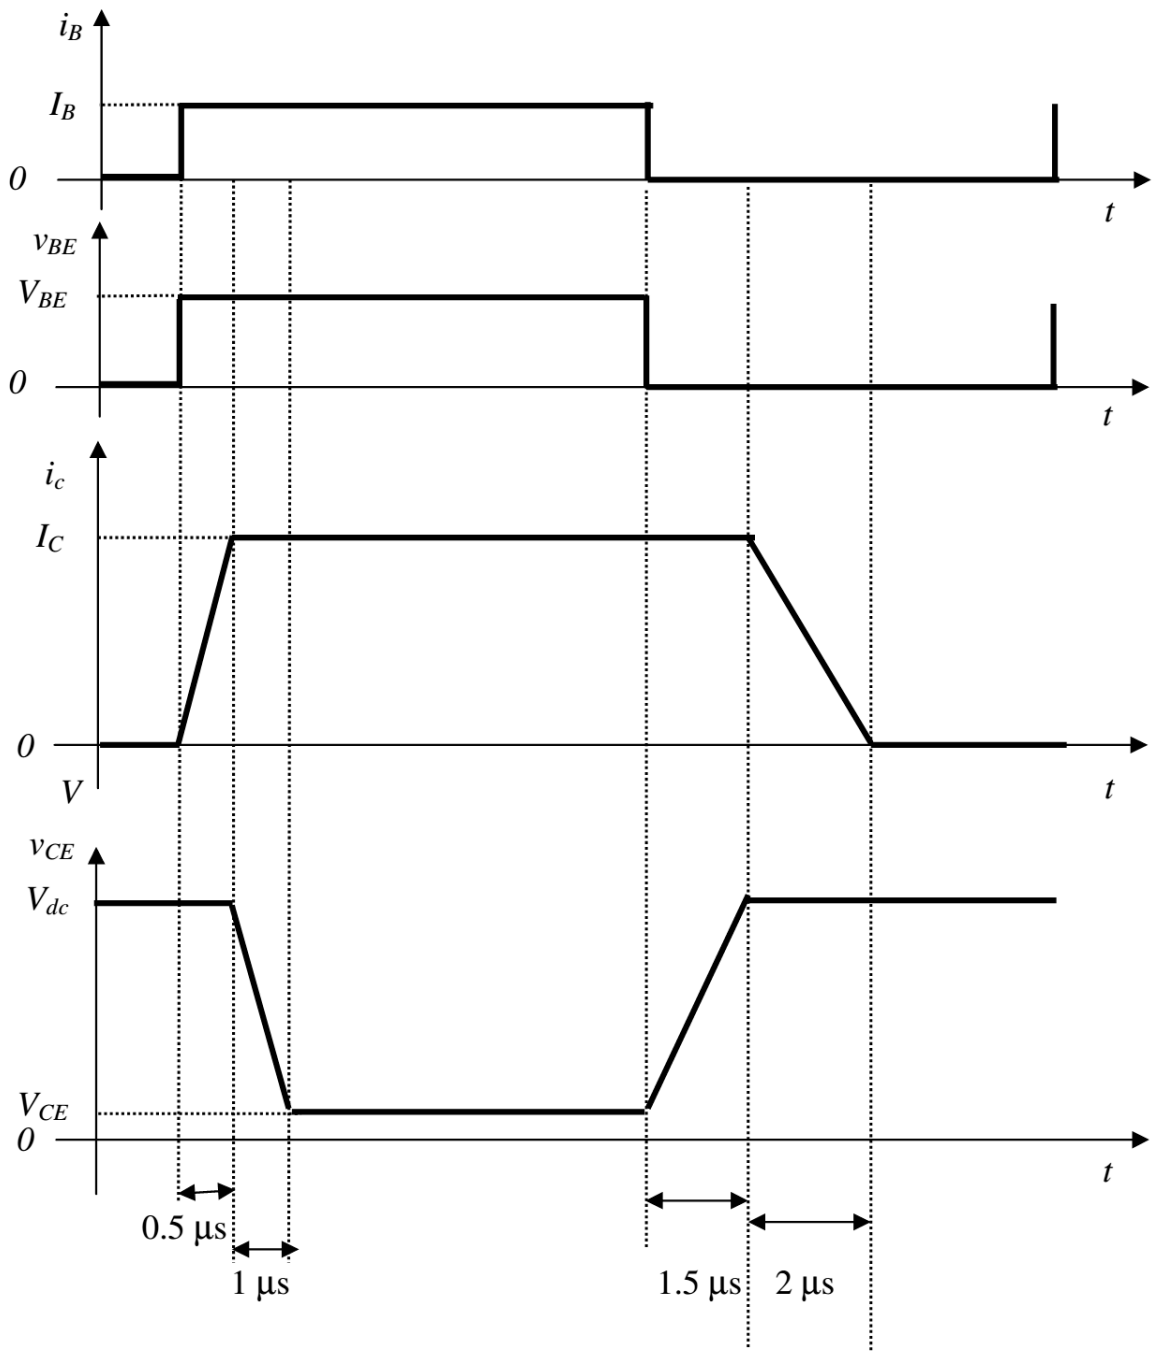

Fig. 3
- (c) Figure 3 shows the waveforms of a BJT switch in a switching circuit with an inductive load. The switch operates at a switching frequency $f = 40$ kHz with a duty cycle $D = 50\%$. The other parameters are: line voltage $V_{dc} = 300$ V, on-state collector current $I_C = 1.5$ A, on-state base current $I_B = 0.3$ A, collector-emitter on-state voltage $V_{CE} = 2$ V, base-emitter on-state voltage drop $V_{BE} = 1$ V.